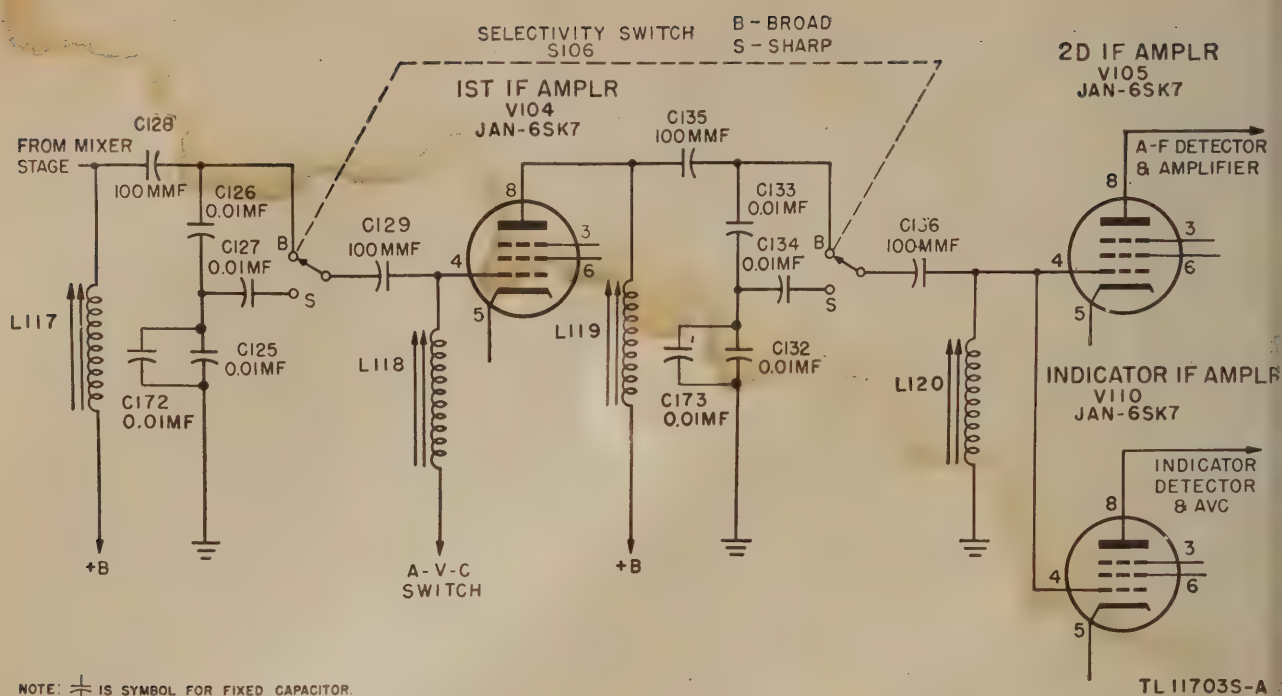

Figure 147. I-f amplifier, interstage coupling circuit.
Two stages of i-f amplification are used; one Tube JAN-6SK7 is used in the first stage, and two Tubes JAN-6SK7 are used in the second stage. As shown in the functional diagram (fig. 147) the output of the first i-f stage (V104) is applied simultaneously to the control grids of the two tubes in the second stage. The output of V105, however, is applied to the diode sections of Tube JAN-6SQ7 (V106) in the audio channel; the output of V110 is applied to Tube JAN-6H6 (V109) in the deflection amplifier channel. The intercoupling components between V103 and V104, between V104 and V105 and between V104 and V110 are designed to provide BROAD or SHARP selectivity, according to the setting of the SELECTIVITY switch, S106.
a. INTERSTAGE COUPLING. The interstage coupling in the intermediate amplifier is designed to permit changing at will the selectivity of the i-f amplifier from sharp to broad. Thus, with the SELECTIVITY switch at BROAD, the coupling circuit between the mixer (V103) and the first i-f stage (V104) is as shown in figure 148A. Coil L117 is permeability-tuned to adjust the circuit composed of L117, C128, C126, and Cc to resonance at the intermediate frequency. Coil L118 is similarly tuned to resonate L118, C129, C126, and Cc to the intermediate frequency. Capacitors C126 and Cc are in series and comprise a capacitive reactance  $X_{cb}$ , which is common to both circuits. SELECTIVITY switch is placed at SHARP, the circuit (A) is changed to that shown in B. Under this condition the resonant frequency of each circuit is the same as before, because C127, equal to C126, has been added to the L118 branch to compensate for the removal of C126 from the common branch to the L117 branch. Only capacitor Cc is now common to both branches of the coupling circuit and therefore the common capacitive reactance,  $X_{cs}$ , has been reduced to approximately one-third of its previous value. The higher common reactance provides closer, or tighter, coupling between the two circuits than the lower reactance. As shown in the functional diagram (fig. 147) a similar coupling circuit is used between the first i-f stage (V104)